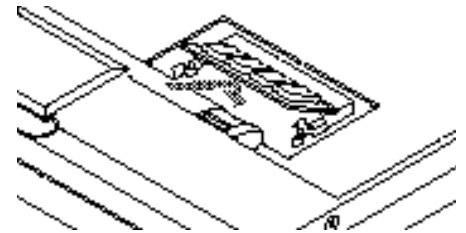

Figure 4-2 Installing the RAM Module
- Align the connector edge of the RAM Module with the connector slot in the compartment. The notch on the module should be on the right with the part side up and the connector pointing towards the back of the notebook and aligned with the notch in the connector. (Figure 4-2.)**
8. **Insert the RAM Module at a 45° angle.** (Figure 4-2.) Press the connector edge of the module firmly down and into the connector.